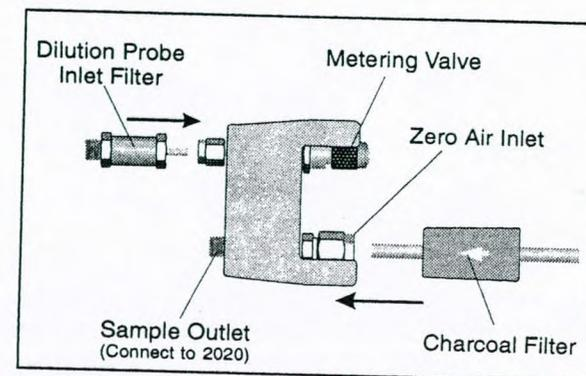

Figure 18 Dilution Probe Layout
1. Slide the charcoal filter tube into the 1/4" compression nut on the zero air inlet of the dilution probe. See Figure 18.
3. Slide the inlet filter into the 1/8" compression nut on the sample inlet of the dilution probe. See Figure 18.